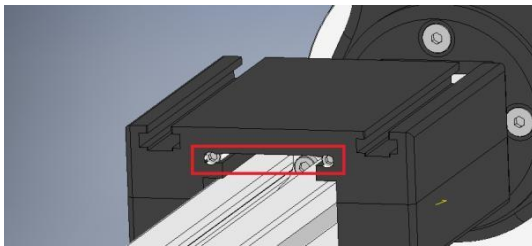

Figure 1
- 2) With the Scanner in the upright position, remove the two M4x16 set screws on the left side of the carriage assembly (Figure 1). Slide the carriage to the right, pushing out two 3x30mm dowels and the Carriage Clamp. Remove the clamp and the two 4x10mm dowels from the Lead Screw Nut assembly and set aside.